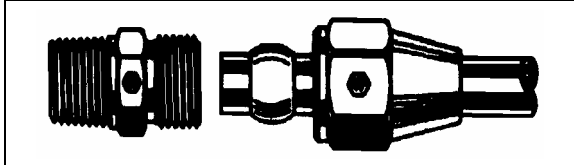

FIGURE 51: HOSE FITTING
**AB-Type Copper Piping:** Hand tighten nut (Fig. 51). From that point, tighten with a wrench the number of turns indicated in the following chart.